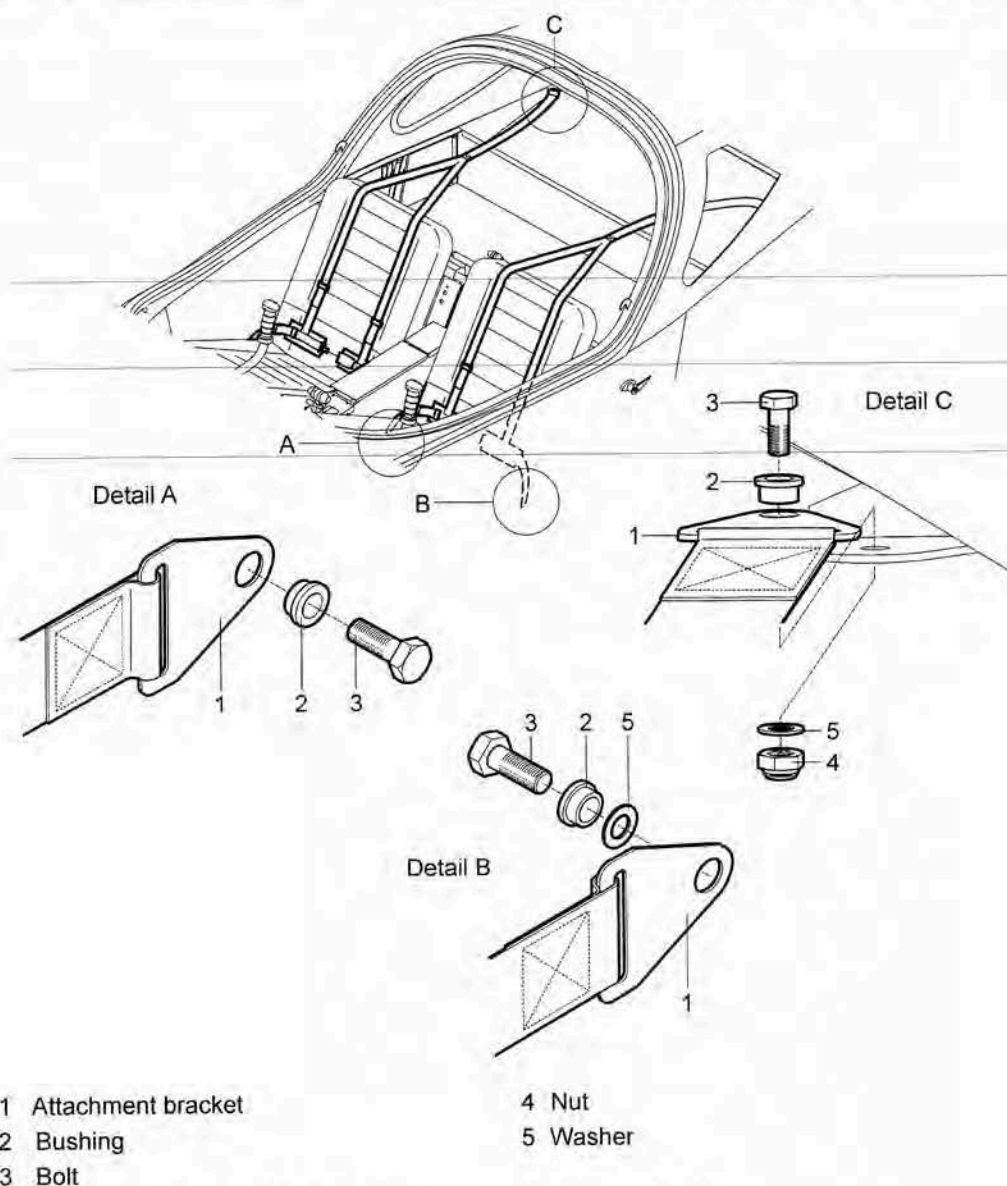

Fig. 7-2: Safety harnesses removal / installation
- (a) Unscrew the nut (4, Fig. 7-2), remove the washer (5), bolt (3), bushing (2) and disconnect the shoulder belts bracket (1) from the attachment bracket in baggage compartment.
- (b) Remove the bolt (3), the bushing (2), the washer (5) (only at outer lap belt attachment) and disconnect the lap belt bracket (1) from the attachment point on the fuselage / central console side.
- (a) Gradually put the bushing (2, Fig. 7-2), lap belt bracket (1), washer (5) (only at outer lap belt attachment) on the bolt (3); screw the bolt into the attachment point on the fuselage / central console side.
- (b) Put the bushing (2) and shoulder belts bracket (1) on the bolt (3), insert the bolt into the attachment bracket in baggage compartment, insert the washer (5), screw and tighten the nut (4).